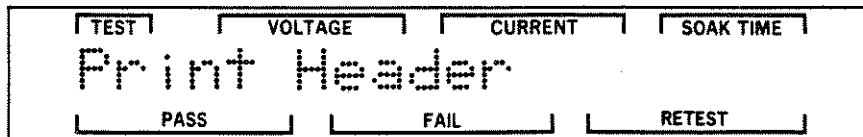

Figure 7-54. Print Header Screen
STEP 29. Press the RIGHT pushbutton to access the individual Printed Reports screens. Press the UP or DOWN pushbutton until the Print Header screen is displayed. Figure 7-54 is an illustration of this screen.